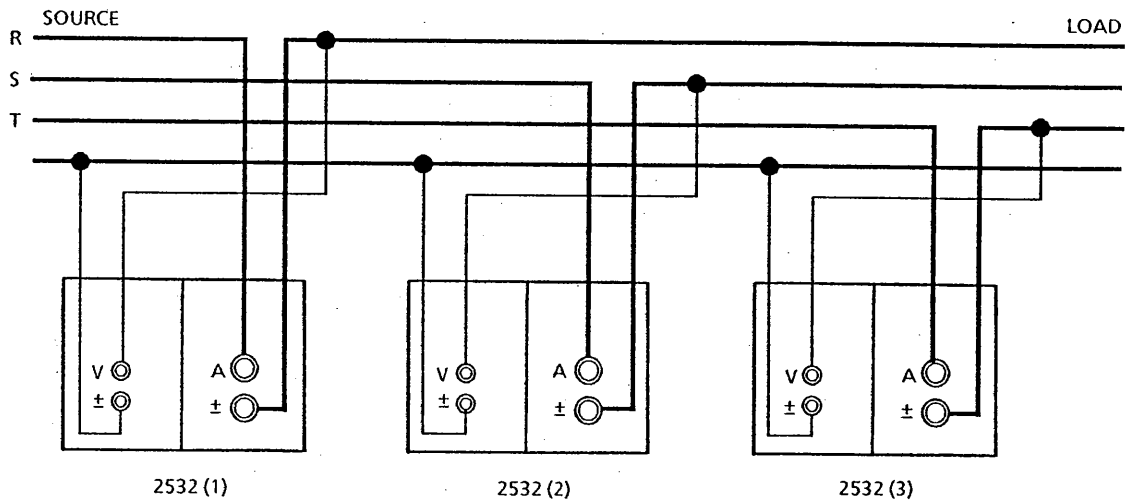

Figure 3.16
To measure 3-phase 4-wire power, use three 2532 instruments according to the three powermeter method, connecting them as shown in Figure 3.16.
The wiring method shown in Figure 3.16 results in connections that do not follow the guidelines in CAUTION item (b) in Section 3.3.1 (1) suggesting that "±" terminals always be connected to the low side; see the discussion under that item concerning the error effects that may result.